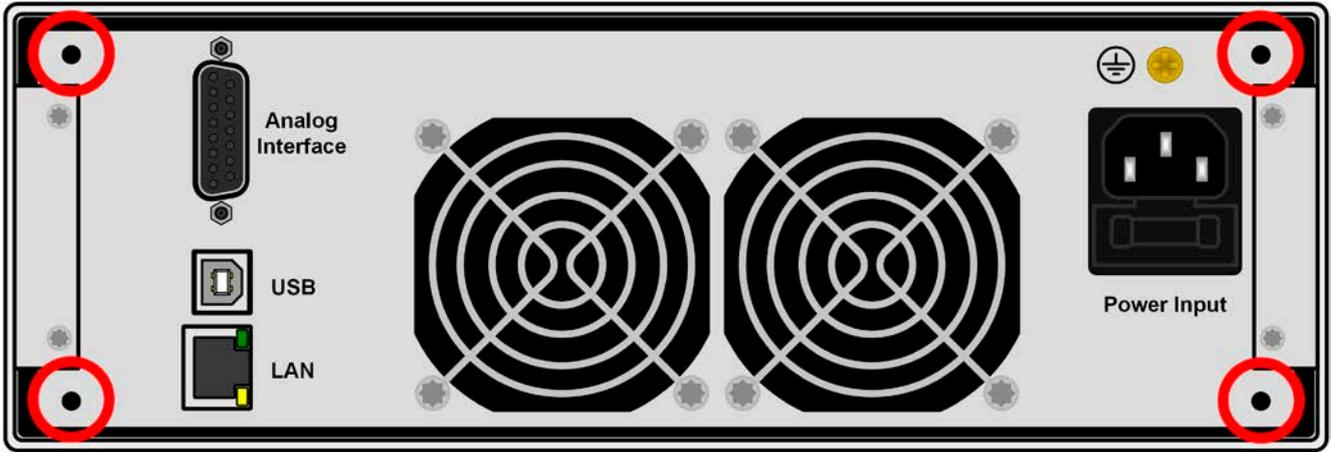

Figure 9 - Positions for the hex spacers (3)
Recommended procedure (also see Figure 6 to Figure 9 below):
2. Remove the front frame (1). Also remove the rear frame (1) by loosening the 4 screws.
3. Place the mounting brackets (2) and fix them with 2x screw M4x10 and 2x contact disc M4 each. Here it is recommended to use a 90° Torx screw driver (ratchet etc.).
4. Screw the 4 hex spacers (3) M3x10 into the threaded holes which were used to hold the rear frame (Figure 9).